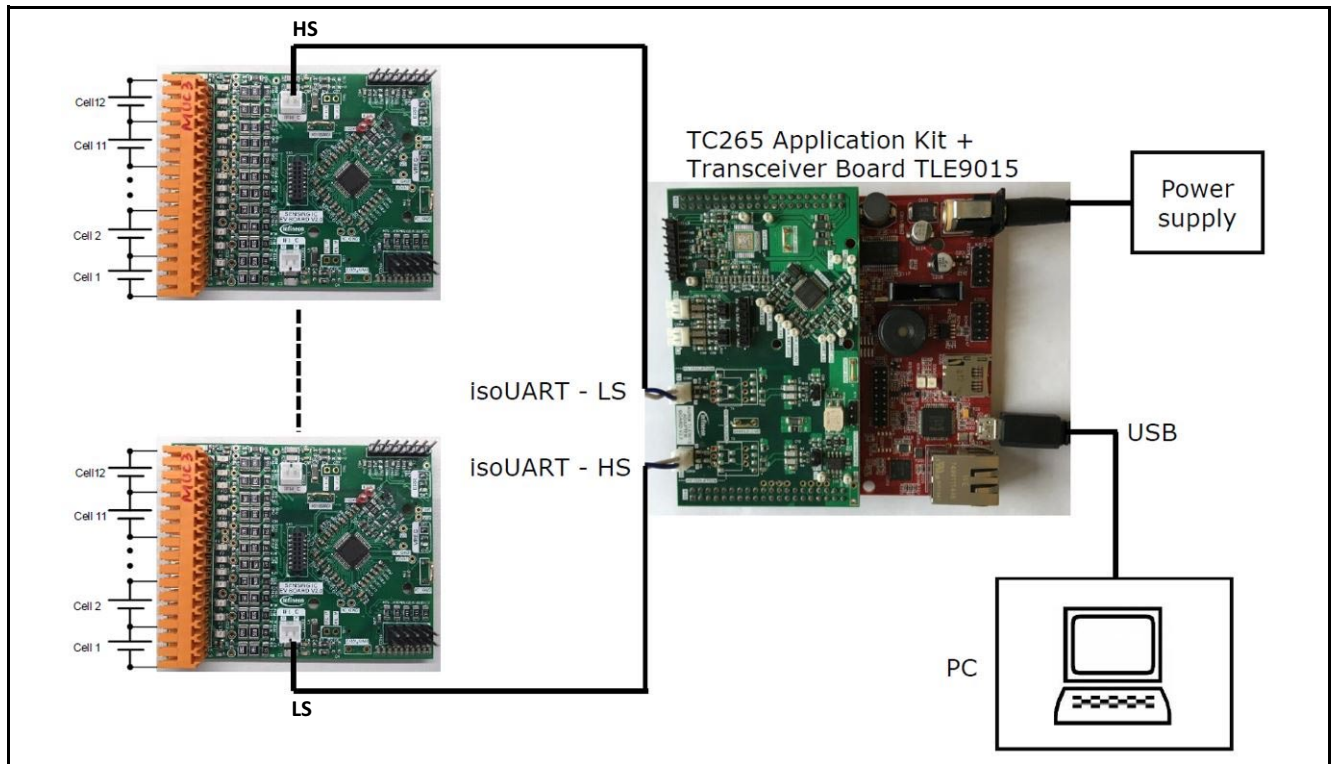
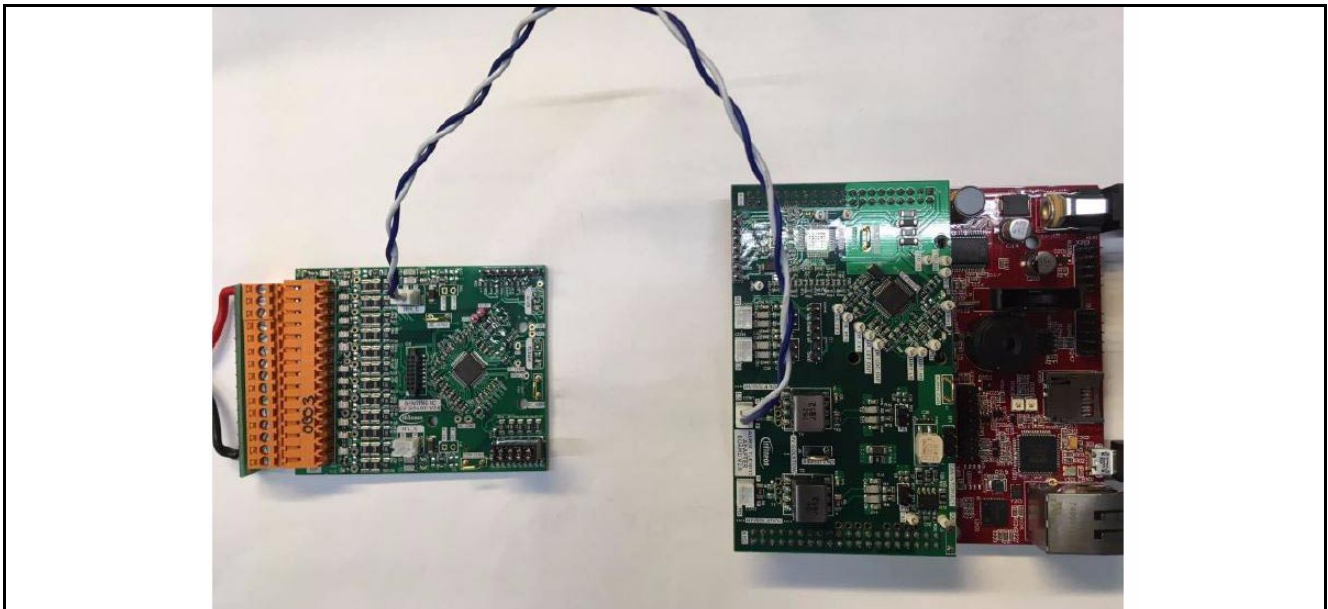

Figure 2 Demo Kit BMS
Figure 3 Hardware setup
- The TLE9015QU transceiver board is plugged onto the AURIX™ board (orientation as is Figure 2/Figure 3)
- Resistor ladder (cable with orange connector) is connected to the TLE9012AQU demo board (orange connector) as shown in **Figure 3** on the left side. In V5 of the evaluation kit, the resistor ladder is included on the PCB and connected through a solder bump.
- Use the iso UART cable (blue/white) cable to connect the transceiver board with the sensing board as shown in **Figure 3**